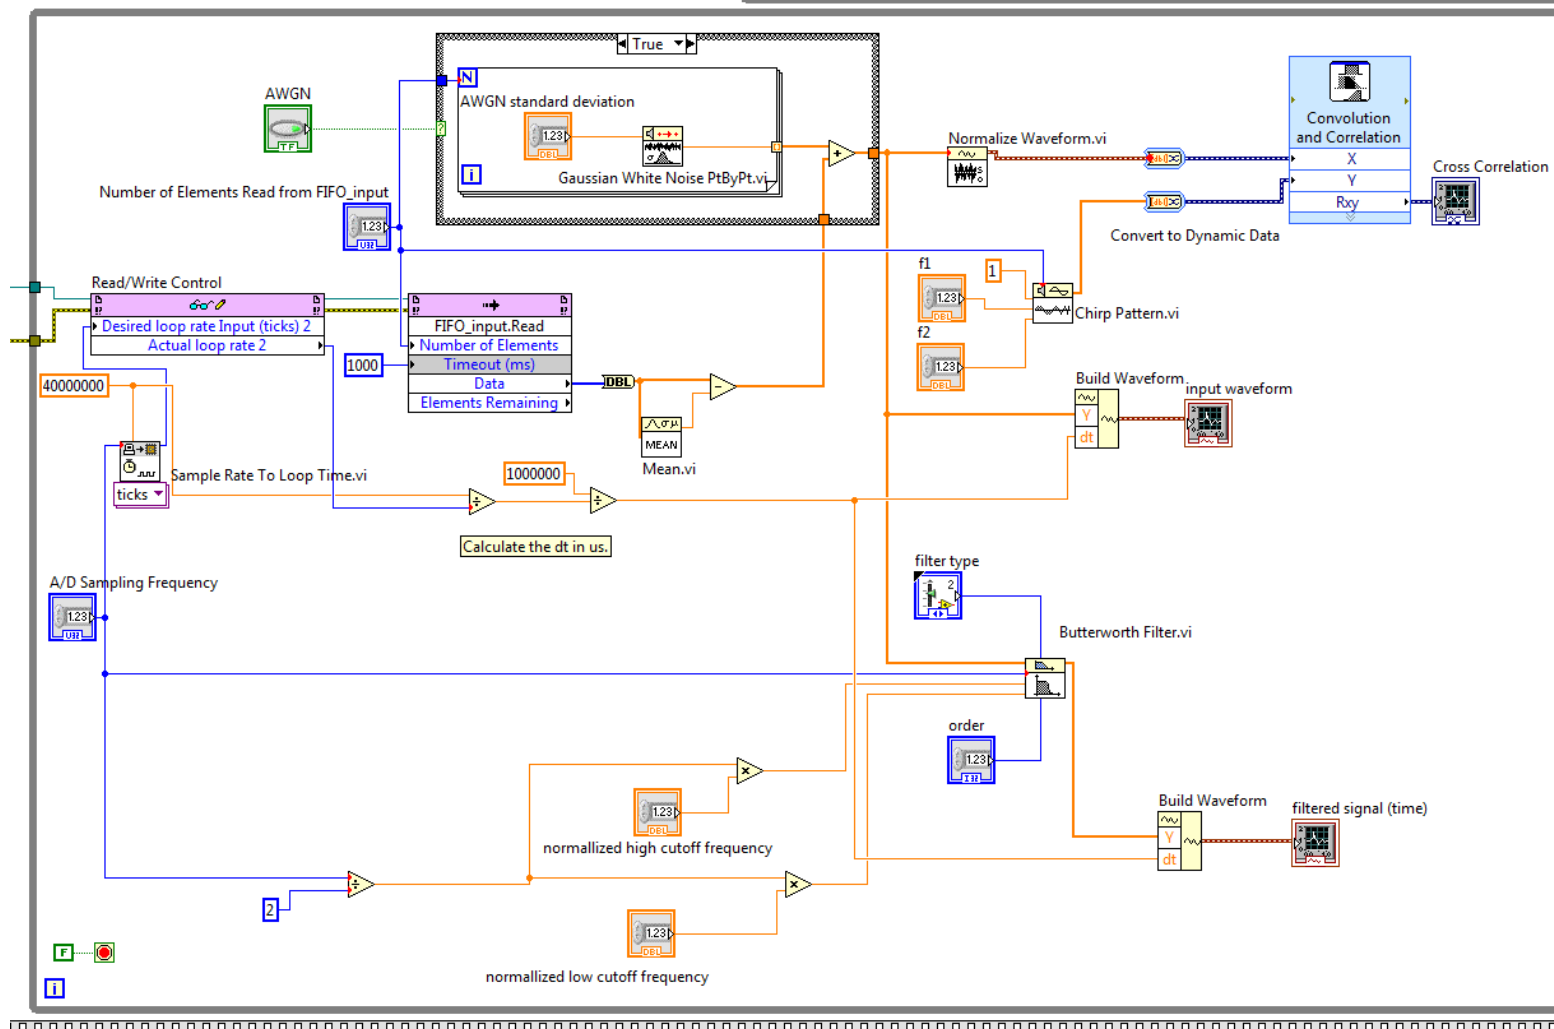

Fig. 19. Added while loop inside the second cell of CPU VI.
- 7) Now, add **another while loop inside the second cell of flat sequence**. The code inside this loop is shown in Fig. 19.
- Note that we **subtract the mean from the input signal and add noise (AWGN) if AWGN is true**. We **plot the input signal, filtered signal by Butterworth filter and cross-correlate the normalized input with a chirp** as shown in Fig 19.